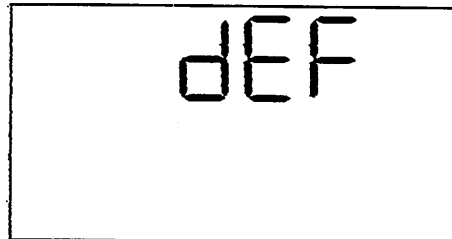

Figure 12. Restoring the Factory Defaults
The UltraLyte LR B has one user-selectable option — the in-scope aiming dot's intensity. Although, you may never need to, you can restore the instrument's factory default settings. Refer to the instructions and Figures 12 and 13 below to restore the factory default for the in-scope aiming dot's intensity.
- The display should look like Figure 12.